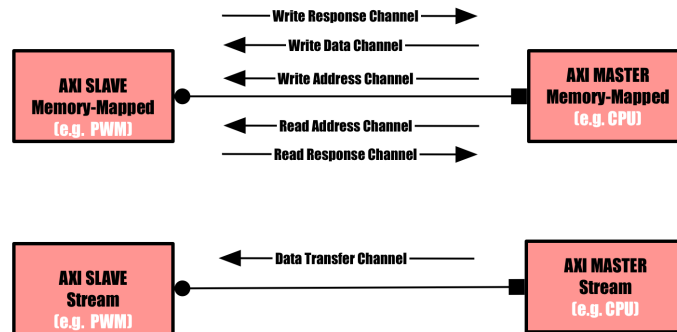

Figure 2: AXI Memory Mapped and AXI Stream architecture
As we have talked about customization per application, you can use two types of advanced eXtensible interfaces (AXIs): AXI Stream and AXI Memory Mapped (MM). Basically, a simple application such as computation of some stream of data can make use of AXI Stream, while a more complex one (e.g. writing on a memory) might need access to addresses (so AXI MM comes in place). Their diagrams can be seen in Figure 2. **In our case, we will use an AXI Memory Mapped architecture, and PWM (Pulse Width Modulation) slave module to control LEDs and a buzzer.**
open *PWM\_v1\_0\_S00\_AXI.vhd*, you will see the registers specific to the AXI-Memory Map architecture (Figure 2). In addition, the user can add its own logic and signals. Thus, you can see the implementation of PWM outlined by the following comments: